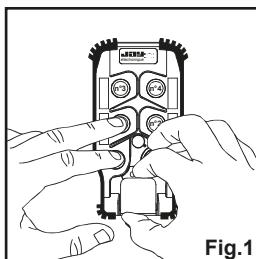

Fig.1
- 3- - Hold buttons n°1 and "On/Horn" pressed, while unlocking the stop palmswitch button (fig.1).